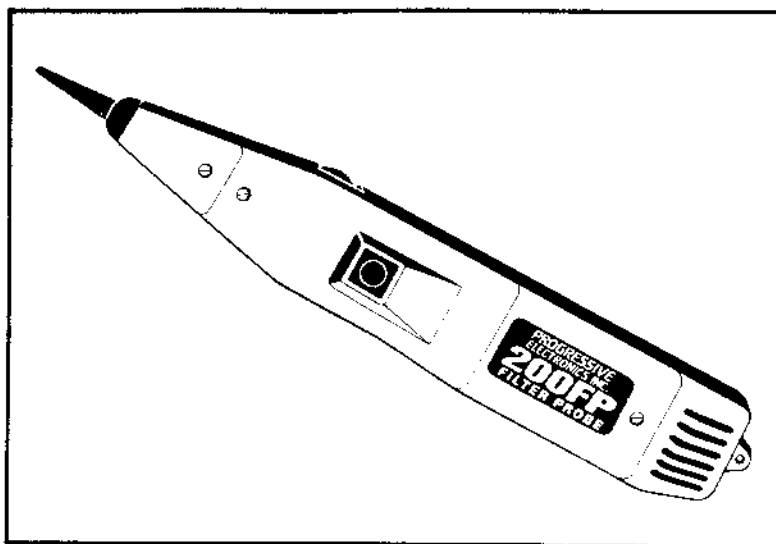

Figure 1. Inductive Amplifier Model 200FP.
1.01 This section provides information on the Model 200FP Inductive Amplifier, manufactured by Progressive Electronics, Inc. (See Figure 1)